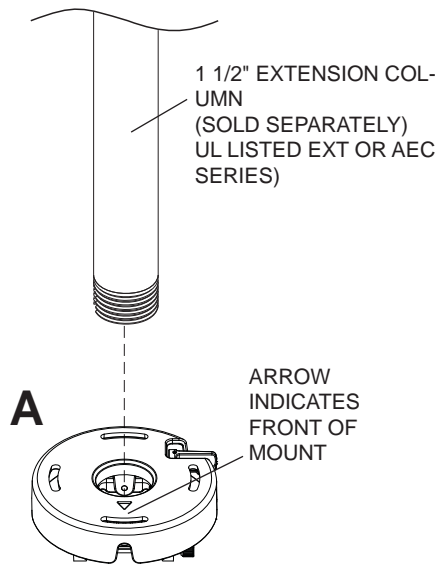
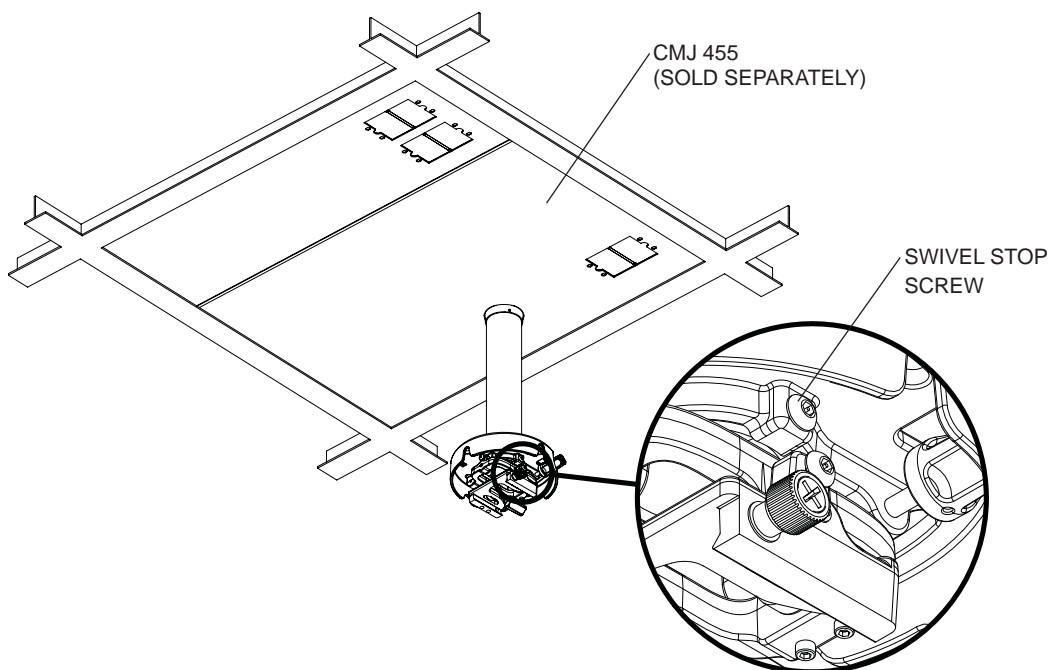

fig. 1.1
fig. 1.2
Screw projector mount assembly (A) onto extension column as shown in **figure 1.1**. Tighten swivel stop screw against extension column, flush mount tube or reducer using 4 mm security allen wrench (B) as shown in **figure 1.2**.
**NOTE:** Swivel stop screw is used to jam against threads of extension column, flush mount tube or reducer to prevent any excess movement of projector mount assembly (A). Do not overtighten screw; overtightening screw will damage threads making it difficult to separate products.